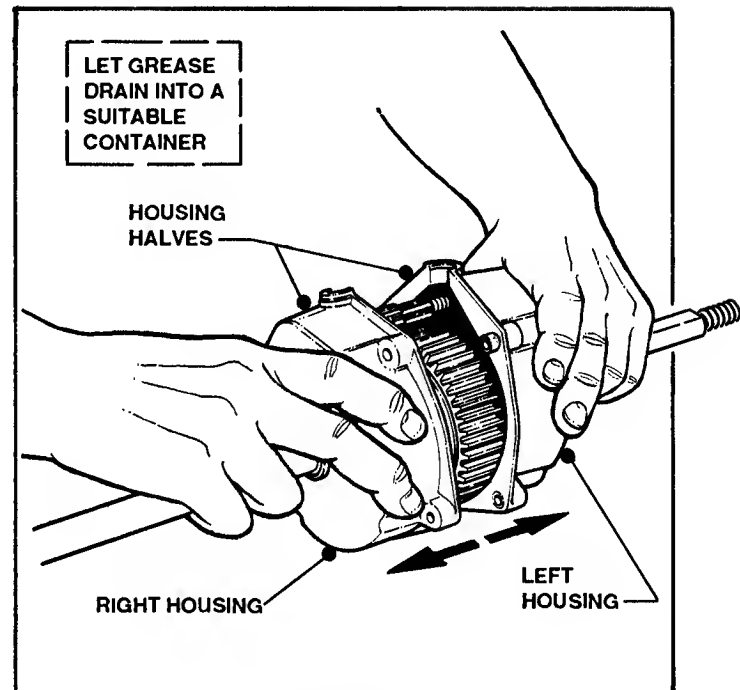

FIGURE 5.4
2. Separate housing halves and let grease drain into suitable container. See Figure 5.4.